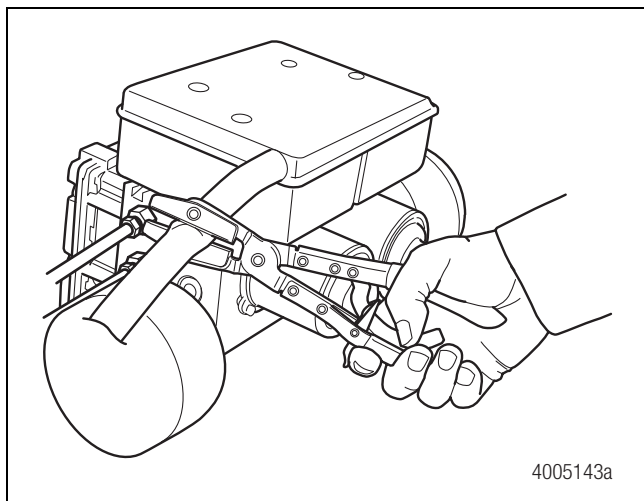

Figure 4.54
7. Attach a pinch clamp to the low pressure hose at the HCU reservoir. Figure 4.54.